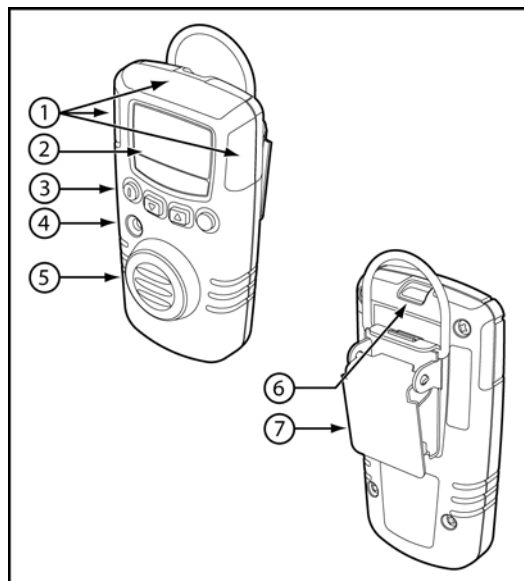

Figure 1. GasAlert Extreme Detector
- Figure 1 and Table 3: GasAlert Extreme Detector